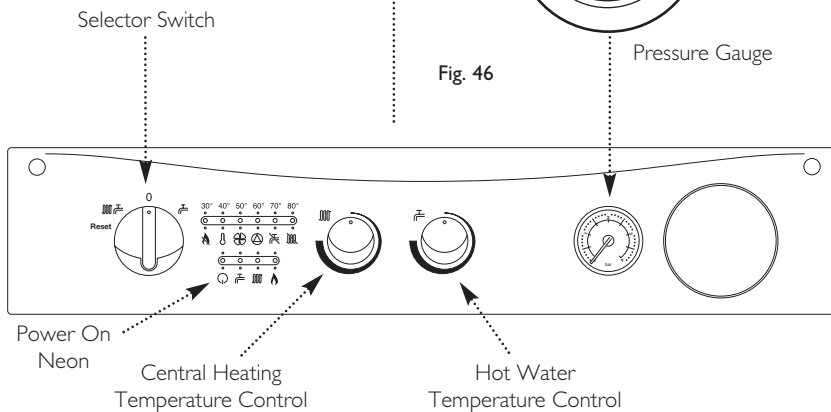

Fig. 47
10. If at any time during commissioning it is required to terminate a particular cycle, e.g. the pump overrun period, turn the selector to the OFF position and then back to either (OFF) or (ON) (Fig. 47).